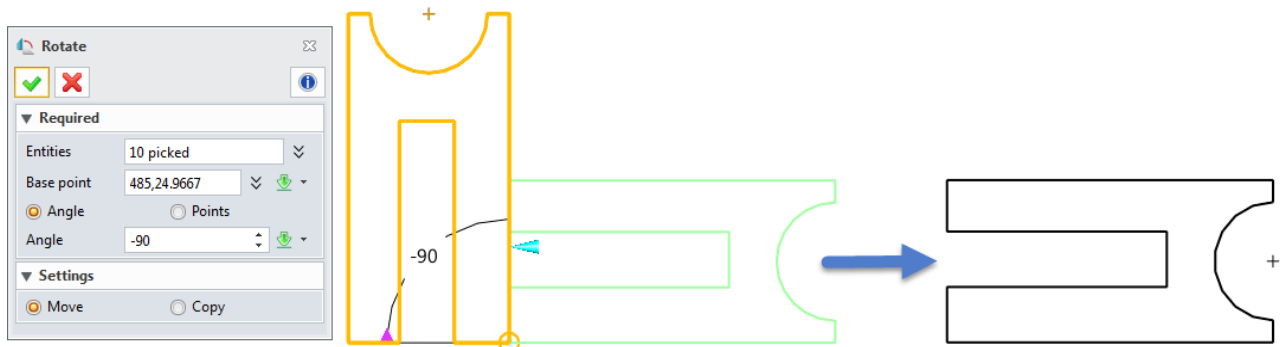
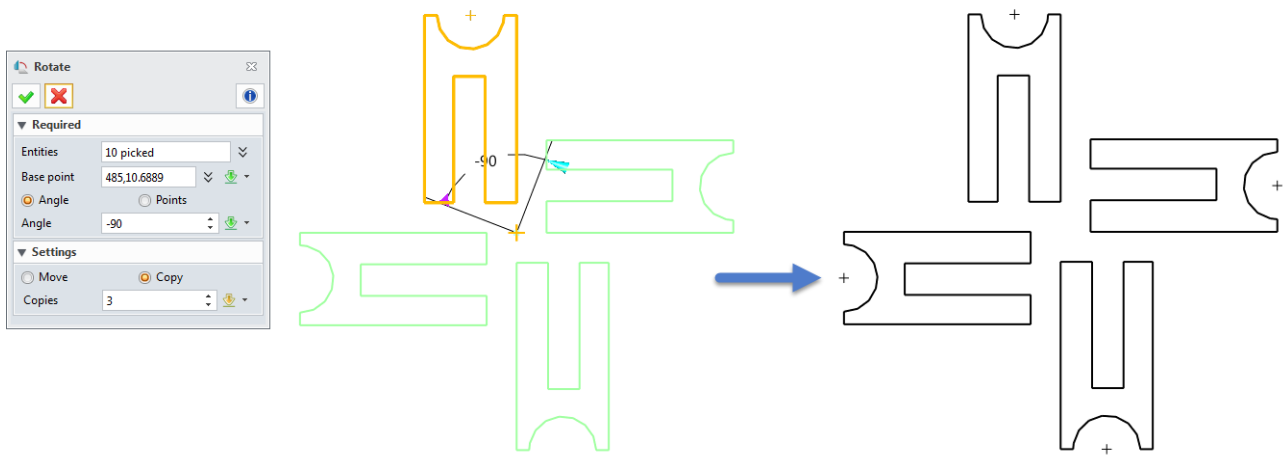

Figure 64 Rotate-Move the Entities
Figure 65 Rotate-Copy the Entities
**STEP 03** Select the rotate method: Move (Figure 64) / Copy (Figure 65).